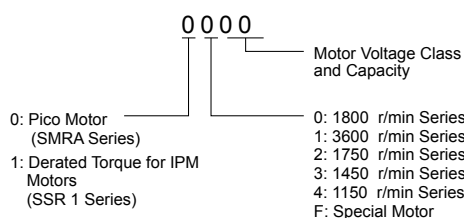

Figure 5.45 PM Motor Code
*Figure 5.45* explains the motor code setting.